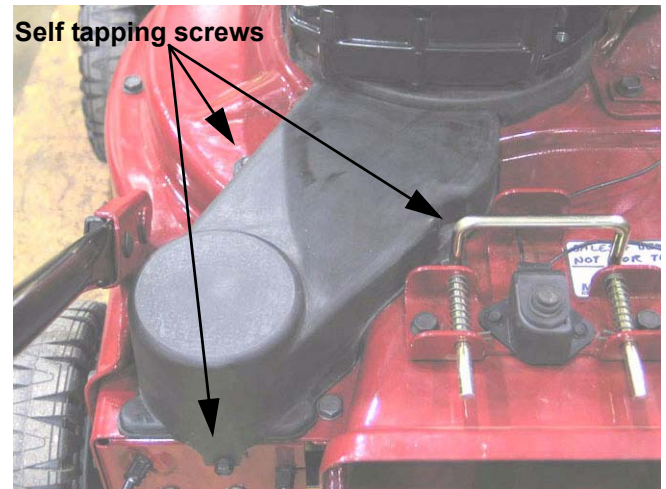

Figure 3.4
- 3.4. Using a 3/8" socket, remove the 3 self tapping screws securing the belt cover. See Figure 3.4.